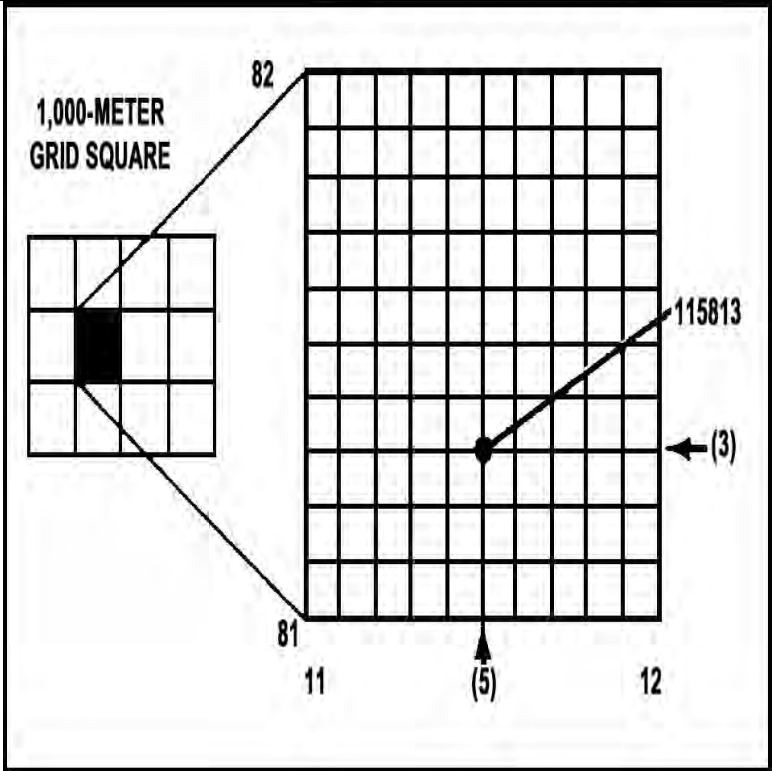

Figure 071-COM-1002-2. Grid Square 1181 Divided.
2. Determine point grid coordinates without a coordinate scale and protractor or plotting scale (Figure 071-COM-1002-2).